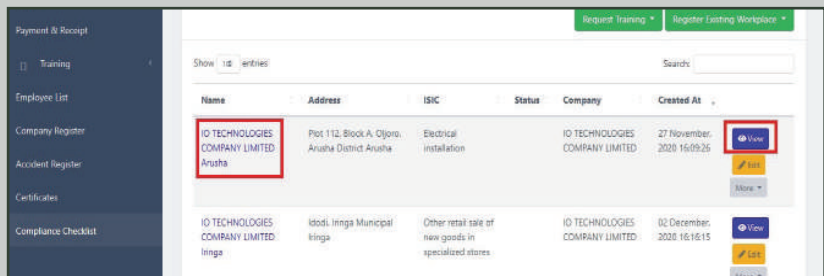

Figure 46: Viewing workplace details page
- i) Click on the view button or workplace name on the displayed workplace list as shown on Figure 46;